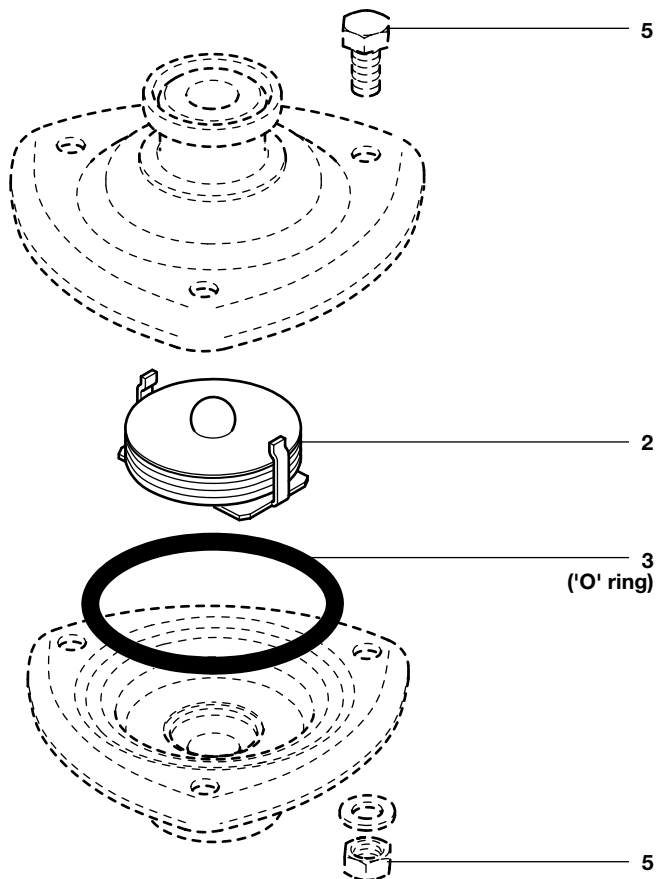

Fig. 2
- The end connection with internal seat, gasket and capsule assembly can then be removed for cleaning or replacement. Ensure that the capsule on reassembly is fitted in the correct position (see Figure 2, page 8).
Inspection/Repair (Refer to Fig. 2)